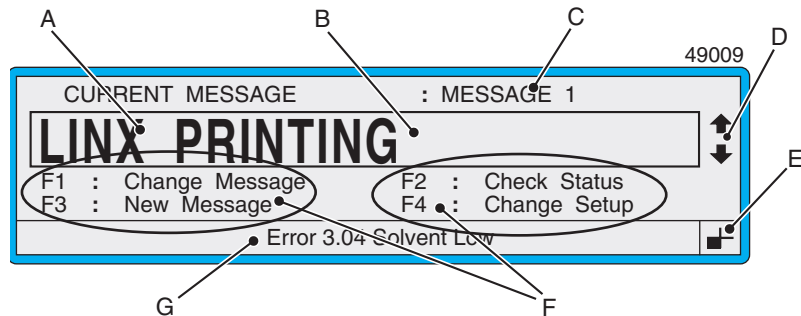

Figure 3-1 Current Message Screen Indicators
1. At the **CURRENT MESSAGE** screen, check that the **Message Selection Cursor Indicators** are visible (see Figure 3-1 on page 26), if not, press the [F1] function key to stop printing.
The options on the left side of the **CURRENT MESSAGE** screen are redisplayed (see Figure 3-1 on page 26), and the printer status changes to “Jet Running”.